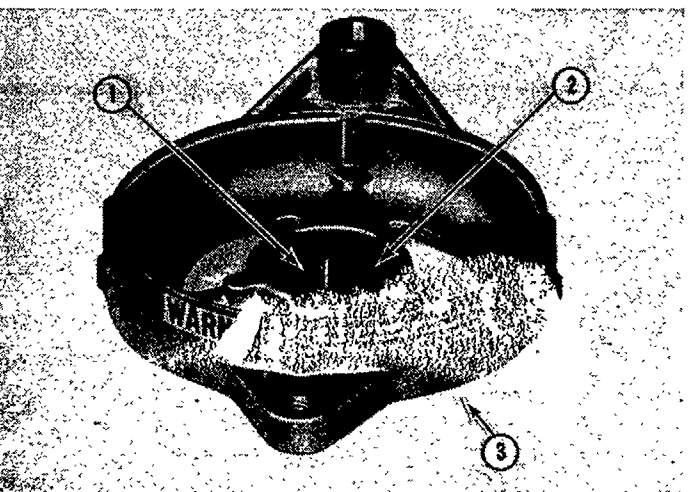

Figure 54
6. Replace the front bearing retainer in the recess, Figure 54. Make certain the retainer ears line up with the opening in the housing. Use a wood dowel or a 1-1/8 inch (28.6 mm.) socket to exert pressure on the retainer while locking the edge into the recess.